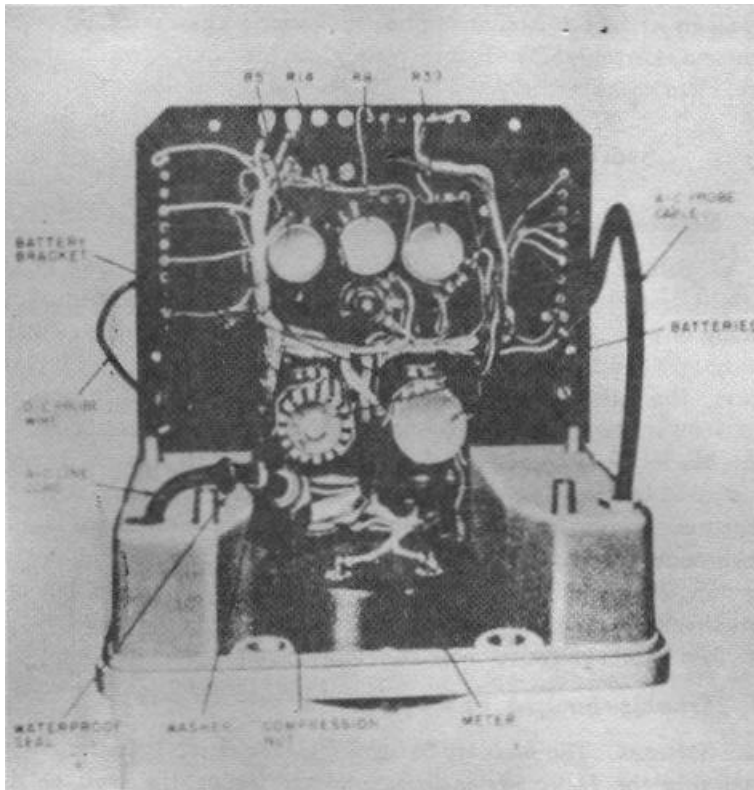

Figure 15. Electronic Multimeter IS-505/U, top view showing under side of terminal board.
- b. In the event that the terminal board is broken, capacitors C8 and C9, resistors R5, R8, R14, and R39, and the battery holders should be salvaged if they are in good condition (fig. 15). In general, the fixed resistors mounted on the board are not worth salvaging because the leads would be too short. However, salvage the precision resistors R4 and R24 through R38 even though the leads are short so that some precision resistors are readily available for replacement.
e. The front and rear covers may be placed in stock if they are in good condition. Note that the cables in the unit have enough slack (fig. 15) so that they may be cut close to the soldered end and re-used.